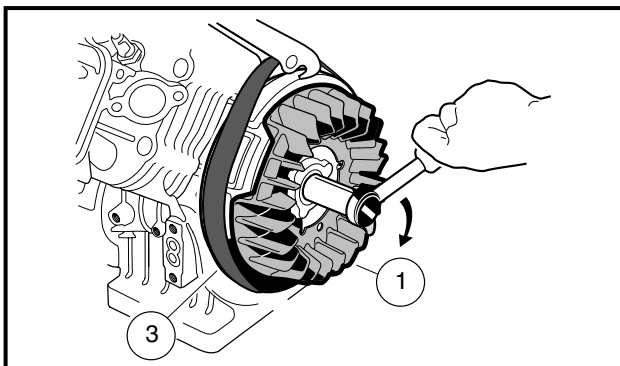

Figure 2-99 Fan and Flywheel Assembly
3. Use a strap wrench (3) to keep the flywheel and fan assembly (1) from turning while tightening the flywheel nut to 63 ft-lb (85.4 N·m) (**Figure 2-99, Page 2-43**). See following **CAUTION**.